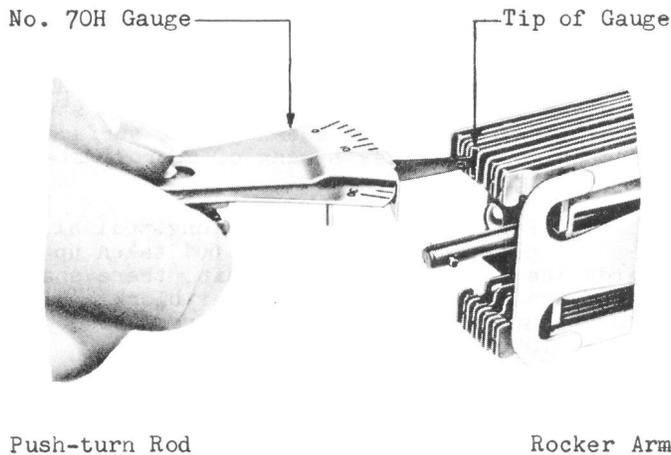
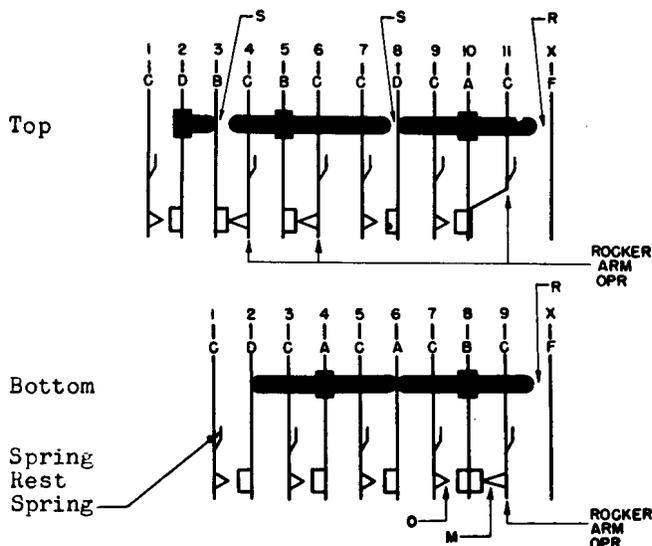
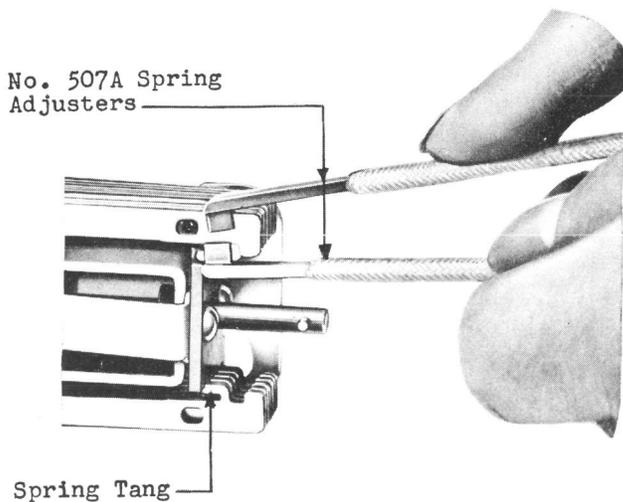

Fig. 5 - Method of Checking Spring Tension
Fig. 7 - Spring Combination - No. 580A Key
Fig. 11 - Method of Adjusting Spring Tangs
Gauge by eye. The thickness of the No. 2 spring (top or bottom) of the spring combination shown in Fig. 7 is .013"
(a) All springs shall be tensioned toward the rocker arm. The tension of each spring measured in grams shall be in accordance with the information given in Fig.7. Unless otherwise specified or unless the abbreviation "Rocker Arm Opr." is shown associated with an arrow mark leading to a spring
in Fig. 7, the tensions shall be measured with the rocker arm in the normal position. A spring tensioned against the spring rest, rocker arm or stud shall register the required tension just as the spring leaves the spring rest, rocker arm or stud. A spring whose contacts are tensioned against the contacts of an opposing spring shall register the required tension just as the contacts break. Use the No. 70J or 70H gauge to check the tension. The tension of all springs having contacts shall be measured in front of the contacts. Apply the gauge so that the tip of the gauge engages both prongs of the bifurcated springs as indicated in Fig. 5. When gauging tension on solid springs apply the tip of the gauge near the front end of the spring just in front of the contacts.
2.13 Stud Gap: With the key in the normal position there shall be a clearance between the stud and spring, at points marked "R" and "S" in Fig. 7. Gauge by eye.
Gauge by eye. The thickness of the No. 2 spring (top or bottom) of the spring combination shown in Fig. 7 is .013".
Exception: The contact follow for normally open springs 1 and 2 top shown in Fig. 7 shall be
2.16 Contact Sequence - Fig. 7
(1) To adjust for the "R" stud gaps (Fig. 7) adjust the end of the rocker arm which rests against the "F" springs with the No. 485A pliers. Adjust for the "S" stud gaps (Fig. 7) by adjusting the spring tang of the associated spring controlling the gap. Adjust the tang to the right or left as required, using the No. 507A spring adjuster, while holding the spring with another No. 507A spring adjuster as shown in Fig. 11. It is satisfactory if, in making this adjustment, the spring tang does not rest flat against the spring rest. Exercise care however to see that requirement 2.09 covering spring tang position is met.
(2) To correct the contact separation, adjust the moving springs with a No. 505A or No. 506A spring adjuster, using the No. 505A adjuster whenever possible or adjust the spring tang of the springs which rest against the spring rest as outlined in (1).